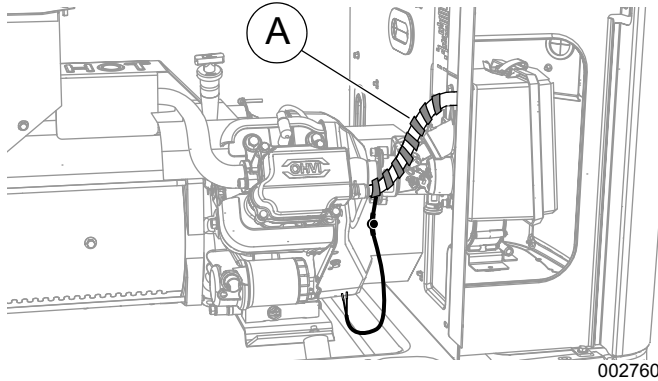

Figure 3. Wrapping the Breather Hose (9 kW)
1. See Figure 3. Wrap the breather heater (A) around the breather hose, evenly spaced as shown, with the lead wires at the bottom. Once installed, wrap the breather heater and hose with silicone tape (provided) to secure heater.